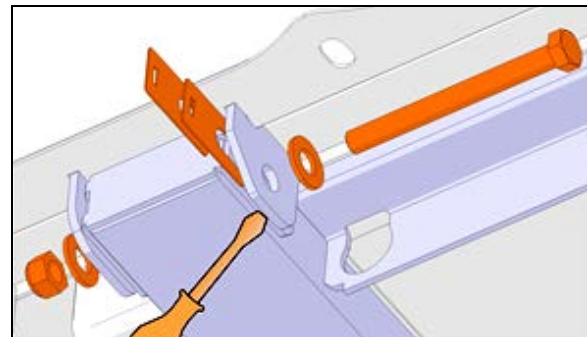

FIGURE 26: SHIM INSTALLATION, TRANSVERSAL SCREW. ARRANGEMENT MAY VARY
7. Shim arrangement may vary and may be stacked on both sides (Figure 26).